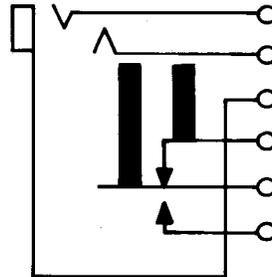

Fig. 27—499A Jack
2.22 499A: This unit-type jack (Fig. 27) is designed for strip-type mounting and is used with the 310 or similar-type plugs. This jack is furnished only on orders for jack mountings. The 499A jack will mount on 116, 136, 137, 180, 250A or similar-type jack mountings having 5/8-inch or greater mounting centers. The contact springs are equipped with contacts of No. 2 metal.